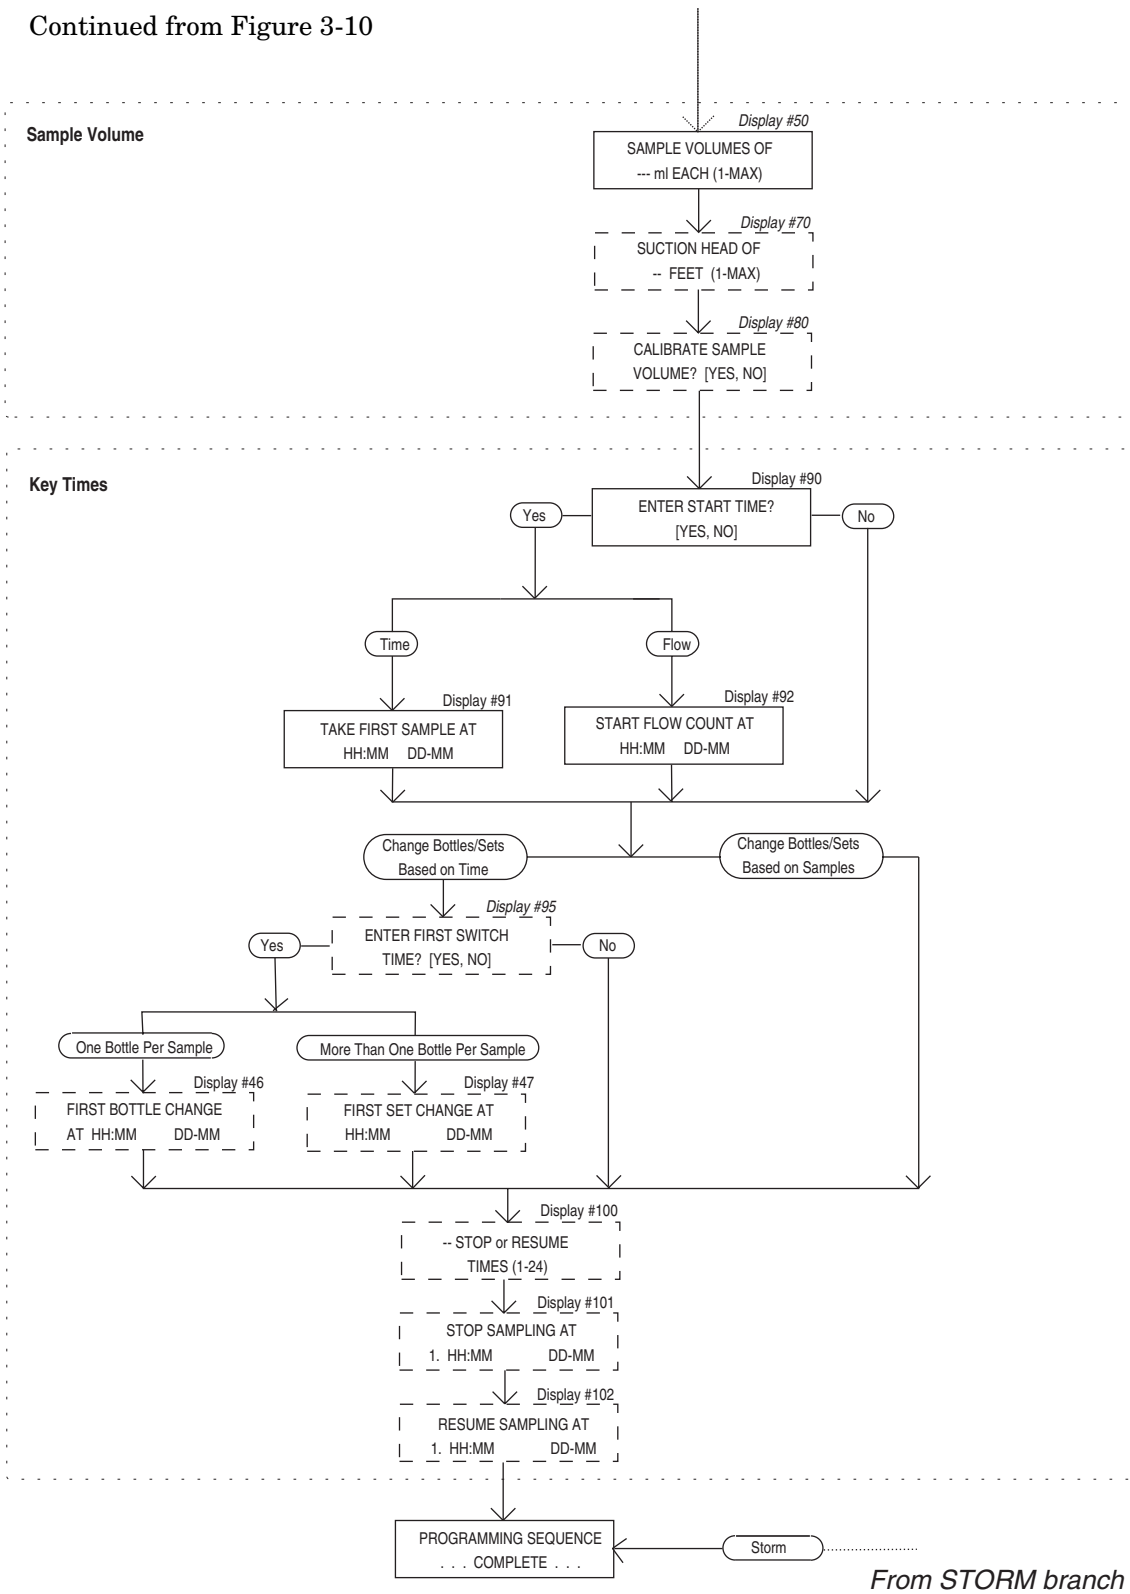

Figure 3-11 Extended Programming Mode: Sample Volume and Key Times
**First Switch Time** – The first switch time displays will appear only when you have specified bottle or bottle set changes based on time in the Sample Distribution section. If you select “TIME” rather than “SAMPLES” in the “CHANGE SETS BASED ON [TIME, SAMPLES]” display, you first will be asked if you want to enter a setting for the first switch time. If you respond “YES,” you will be prompted for the time of the first bottle or set change. The first time-switch displays are indicated by Display #s 95, 46, and 47 in Figure 3-11.